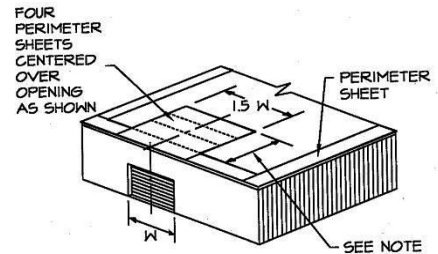

Figure 1
1. **Buildings with large openings (Figure 1)** - When any wall contains major openings with a combined area which exceeds 10% of the total wall area on which the openings are located, a minimum of four (4) perimeter